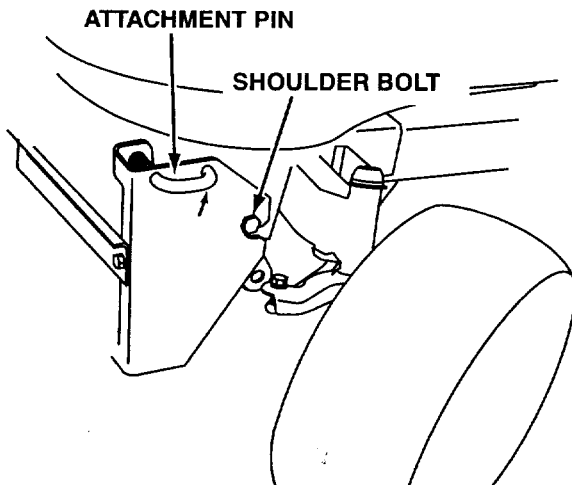

Figure 8
12. Pull out on the attachment pin on the hitch assembly and swing the pins down away from the holes they were in. See figure 8.
13. Hook the hitch assembly onto the shoulder bolts in the sides of the tractor frame. See figure 8.
14. Align the holes in the hitch assembly with the holes in the tractor frame. Insert the attachment pins to lock the hitch assembly in place. See figure 8.